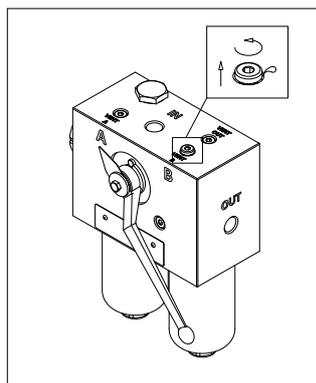

fig. 7
- (Fig. 7) Loose the breather plug on the waste side “Vent A” or “Vent B” by a maximum of one turn